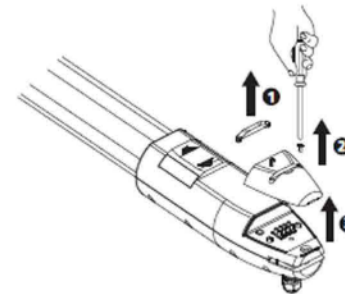
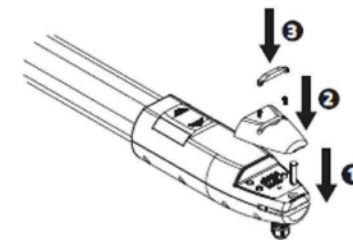
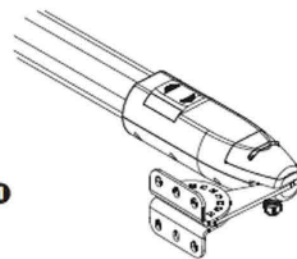

FIGURE 25
FIGURE 25.1
FIGURE 25.2
- 13 Open the gear motor cover and release the screws, then take out the bolt as below Figure 25. Lift the motor overhead and push the gate to the end until the screw holes of the motor end matches the holes on the rear plate as shown in Figure 25.1 and fasten the motor to the rear plate with bolt and screw as shown in Figure 25.2.